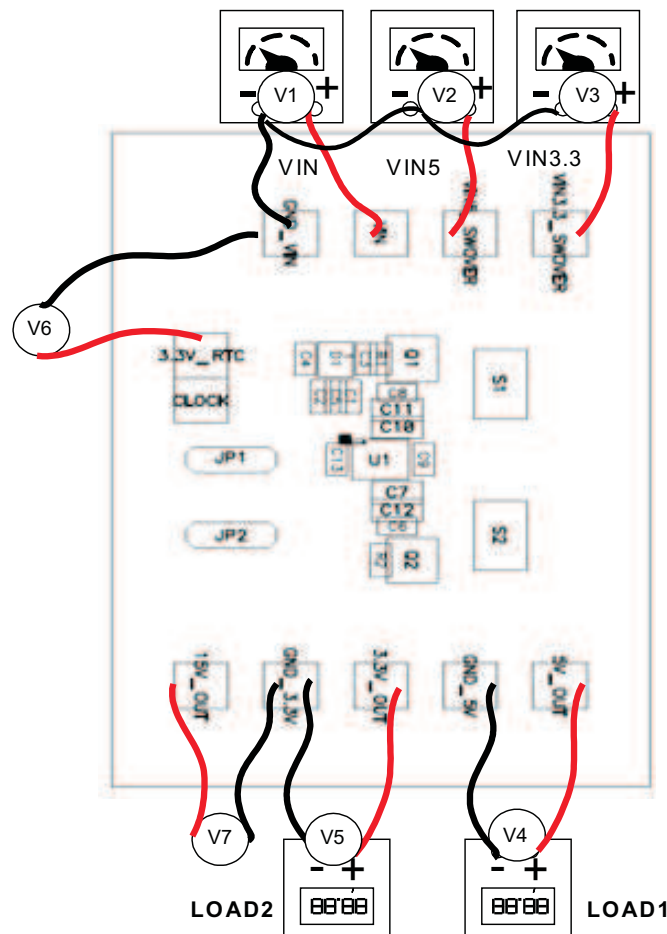

Figure 2. TPS51103EVM Recommended Test Setup
The input voltage source,  $V_{IN}$ , should be a variable dc source, capable of 1-A dc, between 0 V and 30 V. Connect  $V_{IN}$  as shown in Figure 2.
Figure 2 shows the recommended test setup to evaluate the TPS51103EVM.
Before connecting the dc input sources, make sure that all sources are initially set to 0 V and connected as shown in Figure 2.
- Step 2. Connect voltmeters V4-V7 as shown in Figure 2.